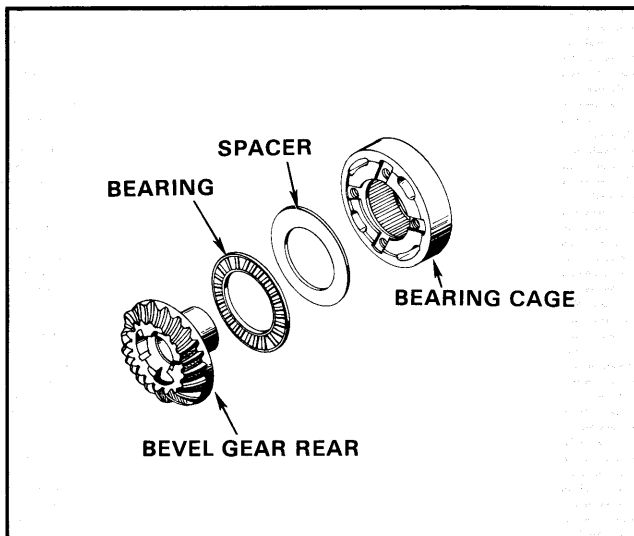

Figure 17—Bevel Gear Rear Assembly
- A. Place bevel gear rear and bearing cage on propeller shaft slide assembly in gear housing. See figure 17 for correct order of assembly.